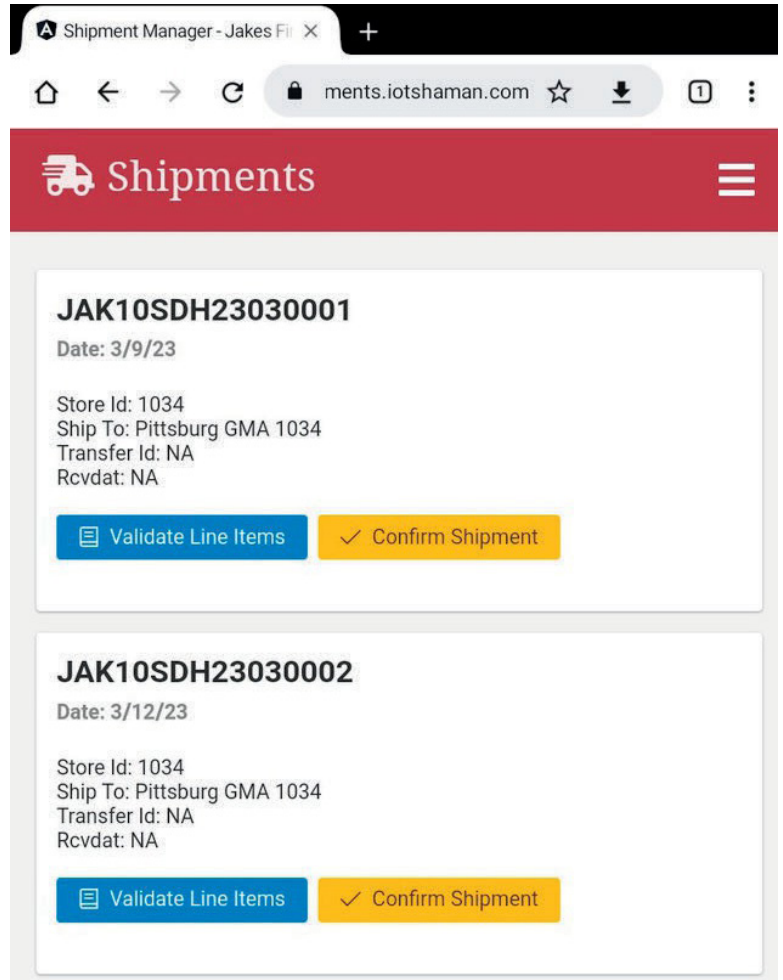

Figure 16
8. Click CONFIRM SHIPMENT (Figure 16)